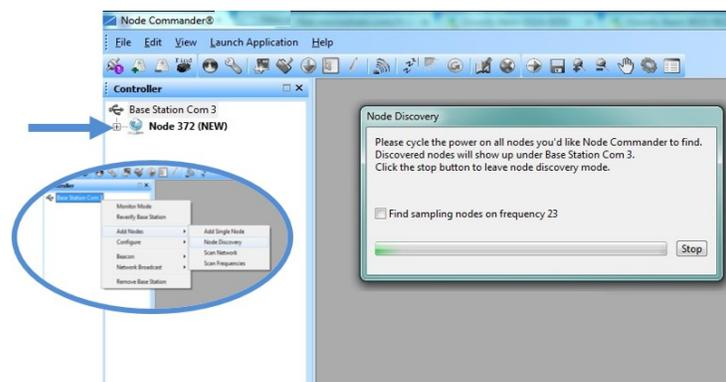

Figure 9 - Using Node Discovery
1. To connect to all available nodes using node discovery, begin by making sure the node power is off. Right-click on the gateway name and select Add Node > Node Discovery (Figure 9 - Using Node Discovery).